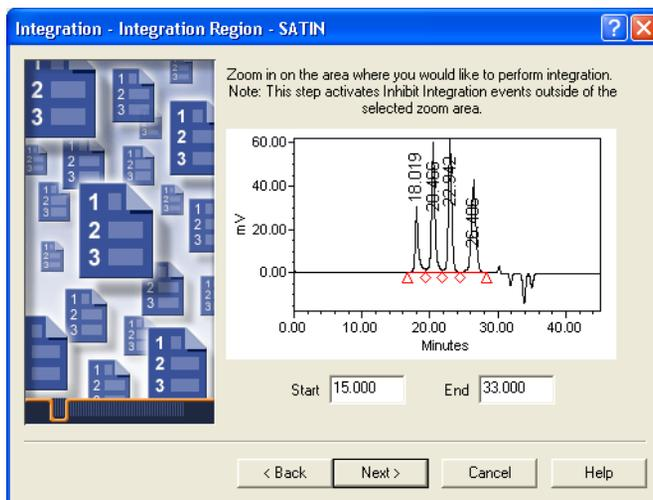

Figure 2-8 Setting the Integration Region
15. Click **Next** to go to the Integration–Integration Region page (Figure 2-8). This page allows you to define the area where you would like to perform the integration.